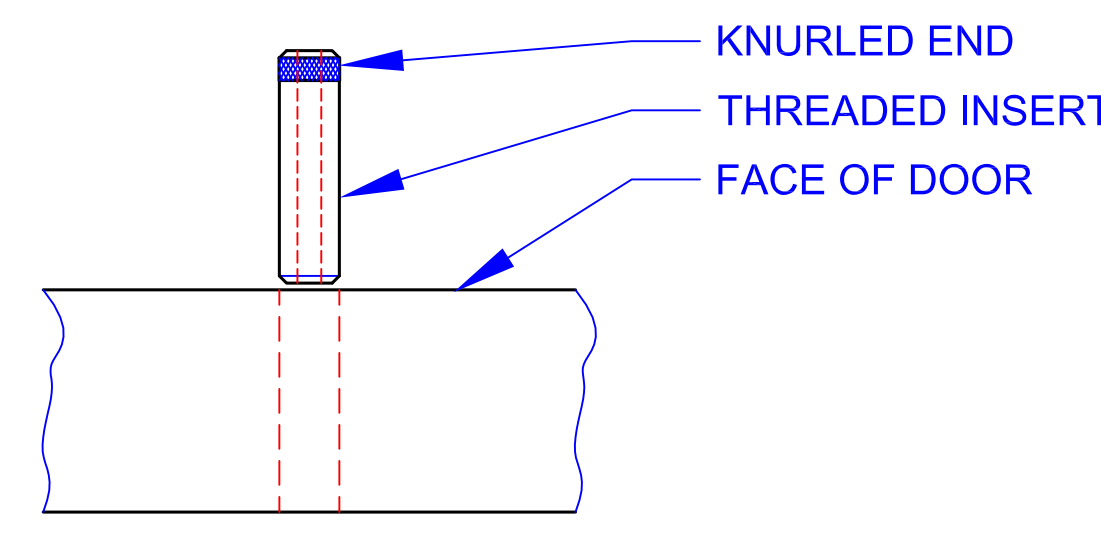

Figure 1
3. Using pliers, grasp the threaded steel inserts by the Knurled End (See Figure 1). Place smooth end at drill hole and strike firmly with a hammer until the insert rests flush with the face of the door panel.